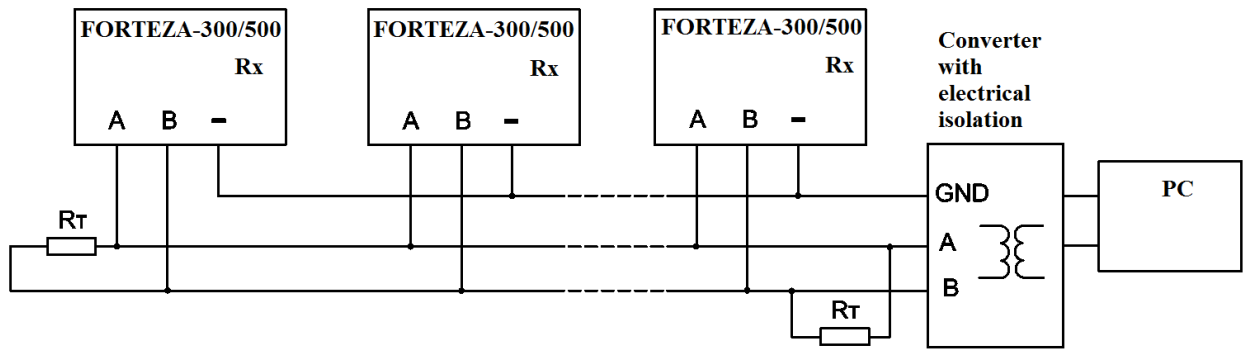

Figure 2.6.
2.8.1. The example of connection of the sensors to the line RS-485 is given in Figure 2.6. You will need the three wire interface RS-485 and the converter with galvanic isolation.